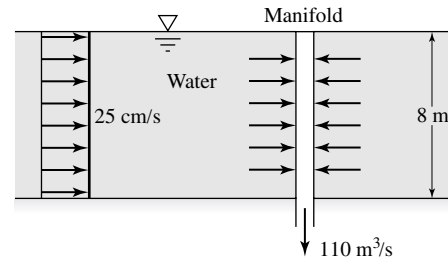

Fig. P4.72
**4.72** A coastal power plant takes in cooling water through a vertical perforated manifold, as in Fig. P4.72. The total volume flow intake is  $110 \text{ m}^3/\text{s}$ . Currents of  $25 \text{ cm/s}$  flow past the manifold, as shown. Estimate (a) how far downstream and (b) how far normal to the paper the effects of the intake are felt in the ambient 8-m-deep waters.